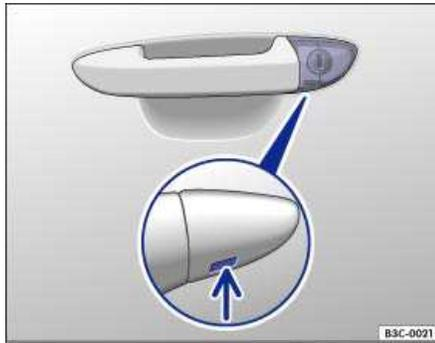

Fig. 176 Door handle on driver door: Concealed lock cylinder.
- Insert the emergency key from below into the opening of the cover cap on the driver door ⇒ fig. 176 (arrow) and lift the cover cap off. Grasping the door handle and pulling slightly makes it easier to remove the cap.